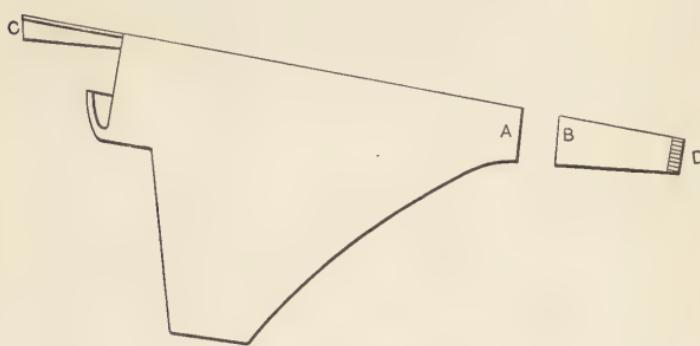

Fig. 8. Plow Share.
**Repairing Plowshares.**—Fig. 8 shows a plowshare. About twenty-five years ago plowshares were generally forged from wrought-iron plates, and when the wing wore quite narrow it was laid along the share with a piece of steel, and very often had to be pointed, staved up and made square on end. Cast-iron shares soon drove this class of work away from the general smith. Now a cast-iron share becomes useless as soon as the point wears rounding on the bottom and becomes thin like a lance. It no longer takes hold, and is thrown in the scrap heap. The writer has re-
paired hundreds of cast-iron plow points which have reached this condition. Break off a piece from the end of the point and grind a good, flat, straight surface (see *A*, Fig. 8). Then forge a steel point the proper shape as shown at *B*. Now heat both pieces, using borax, watching the cast iron closely, but get the steel part as hot as possible. When the pieces are hot enough, place the share on a level plate, with a support at the end *C*, then press the steel piece up against the cast iron and they will unite. Do not hammer; let them cool and then reheat point *D*, and dip in cold salt water to harden. It will be found impossible to break a piece joined in this way.